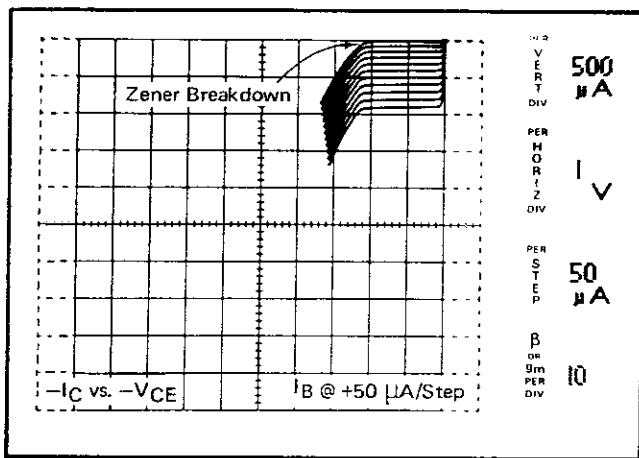

Fig. 2-17. Reverse voltage characteristic of transistor.
65. Press the STEP/OFFSET POLARITY INVERT button and turn the VARIABLE COLLECTOR SUPPLY control slowly clockwise. Note the reverse voltage characteristics obtained by reversing the polarity of the collector sweep but keeping the Step Generator polarity the same. Note that as the reverse Collector Supply voltage is increased, Zener breakdown of the base-emitter junctions occurs (see Fig. 2-17).